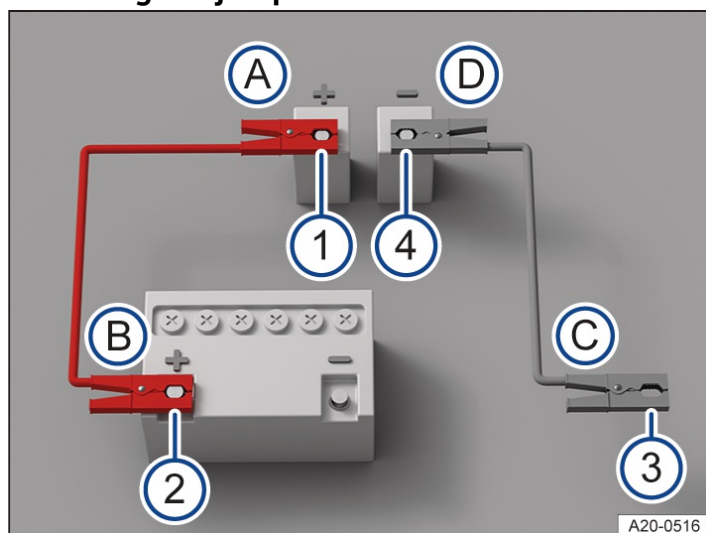

Fig. 1 How to connect the jump leads.
The jump leads should be connected only in the order A – B – C – D → Fig. 1.
- Connect one end of the *red* jump lead to the positive battery terminal jump-start connection point(+) of the electric vehicle with the discharged 12-volt vehicle battery → Fig. 1 ① → ⚠.